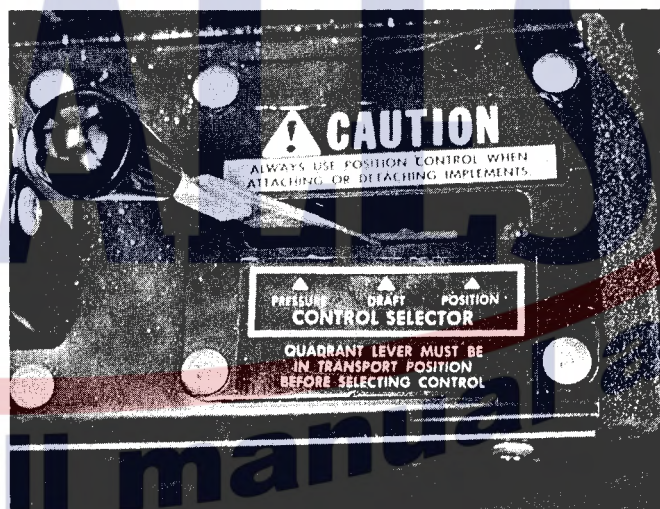

Fig. 34 — Control Selector Lever
1. Place control selector lever, Fig. 34, in Pressure Control.